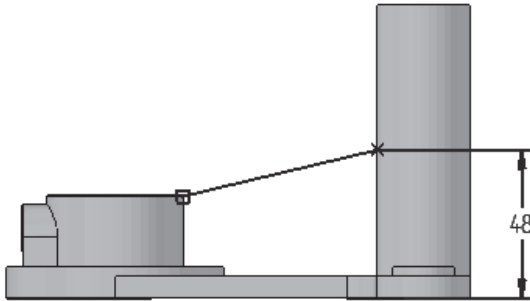

Figure 8-79 Profile for the rib feature
3. Draw a single line for the rib feature and add the required relationships and dimensions to it, as shown in Figure 8-79.